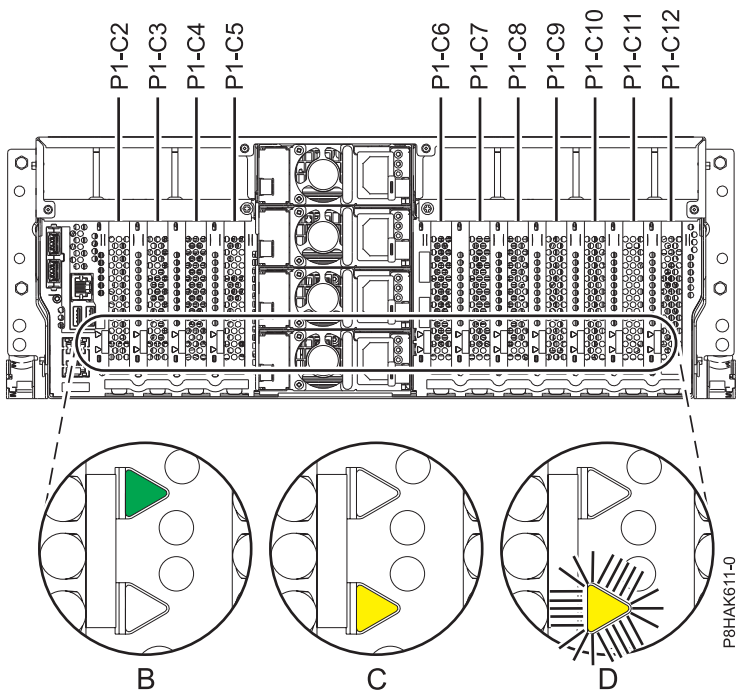
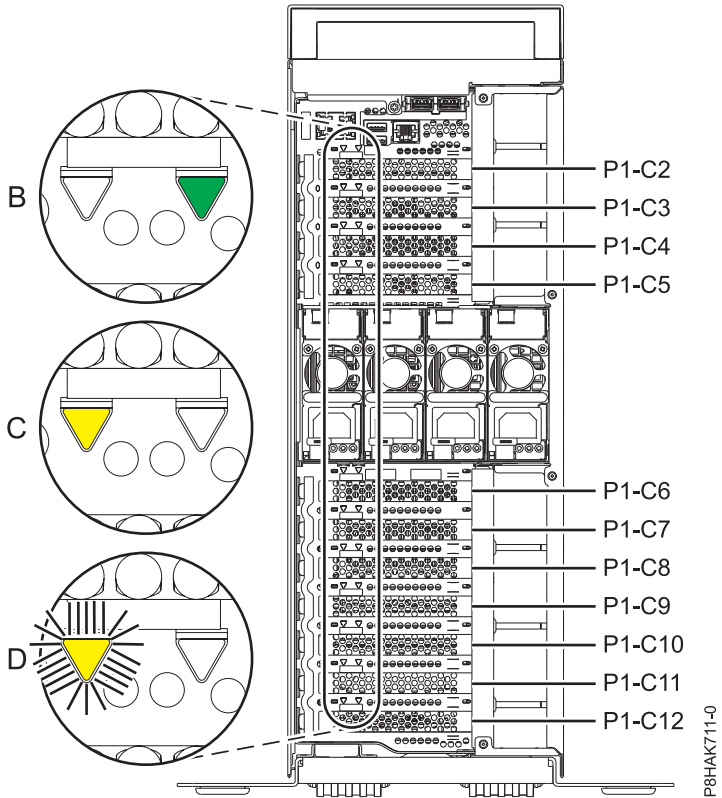

Figure 66. PCIe adapter slot locations and locations of the LEDs in a rack-mounted system
Figure 67. PCIe adapter slot locations and locations of the LEDs in a stand-alone 8286-41A system
6. Familiarize yourself with the locations of PCIe adapter slots and the service indicators for the PCIe adapter that you want to service. The PCIe adapters are installed in the rear of the system. Figure 66 on page 72 and Figure 67 on page 72 show the locations of the PCIe adapters in a system and the locations of the light-emitting diodes (LEDs) for the PCIe adapter.